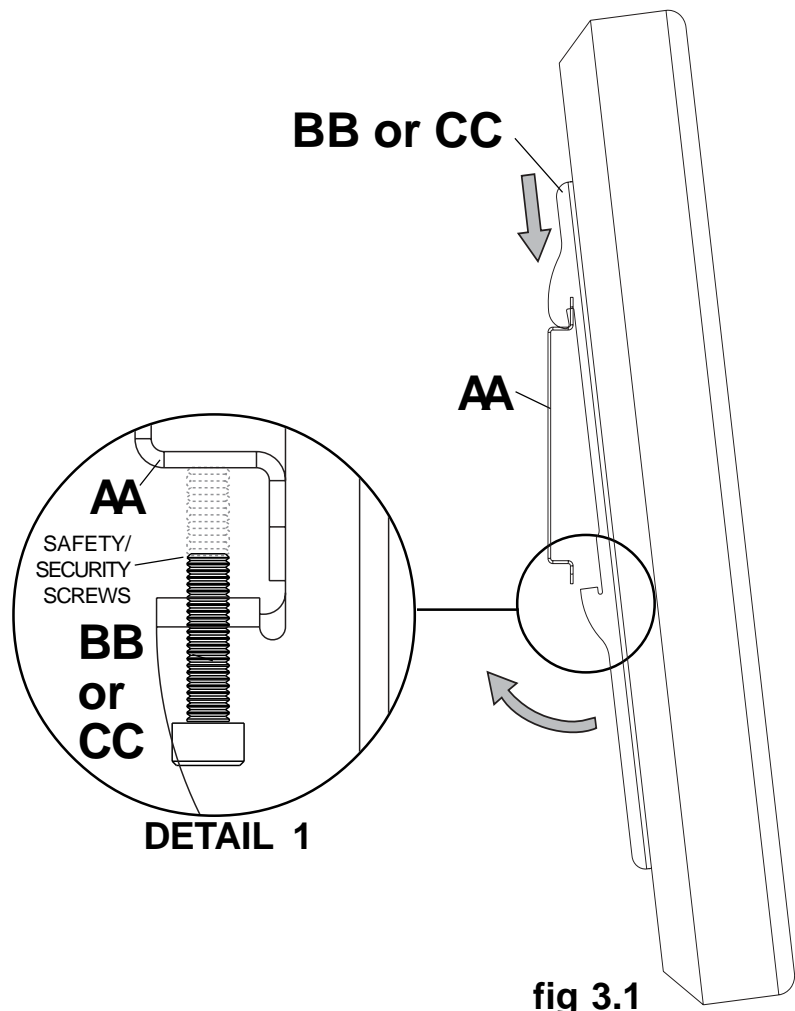

fig 3.1
- 3 Hook adapter brackets (**BB or CC**) onto wall plate (**AA**). Then slowly swing screen in as shown. Turn safety/security screws, using security allen wrench (**FF**), clockwise at least six times to prevent screen from being removed as shown in detail 1 of figure 3.1.